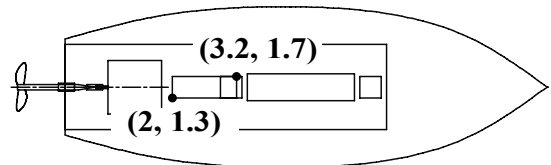

FIG. 14
Step 6. In the Top View, draw the switch, **Fig. 14**. Start the rectangle with a click at coordinates **(3.2, 1.7)** and move the cursor to stretch the rectangle to coordinates **(2, 1.3)** and click